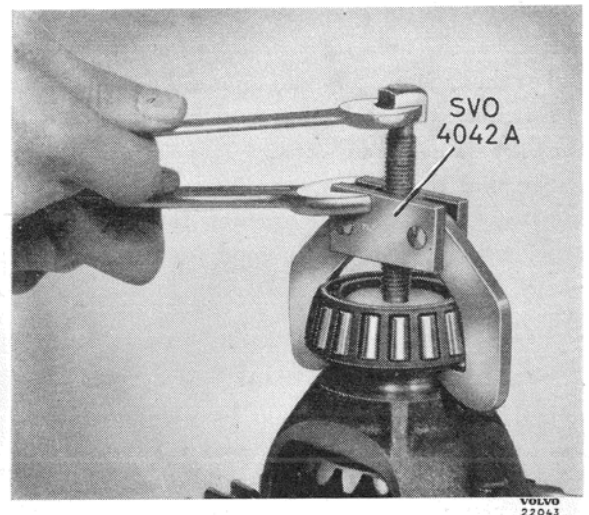

Fig. 14. Removing the differential carries bearing.
3. If required, pull off the differential housing bearing (33). Use puller SVO 4042 A, see fig. 14.